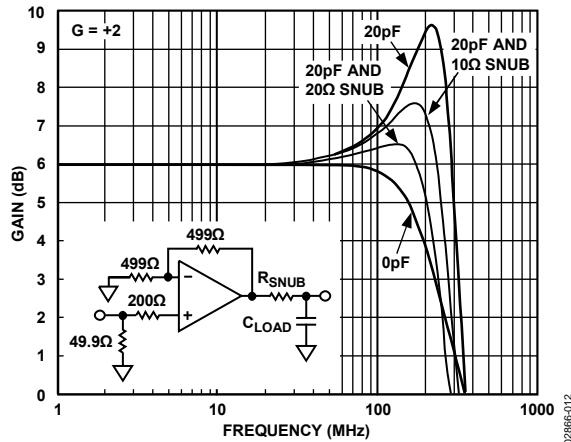

Figure 12. Small Signal Frequency Response for Capacitive Load and Snub Resistor
- Put a small value resistor in series with the output to isolate the load capacitance from the output stage of the amplifier (see Figure 12).